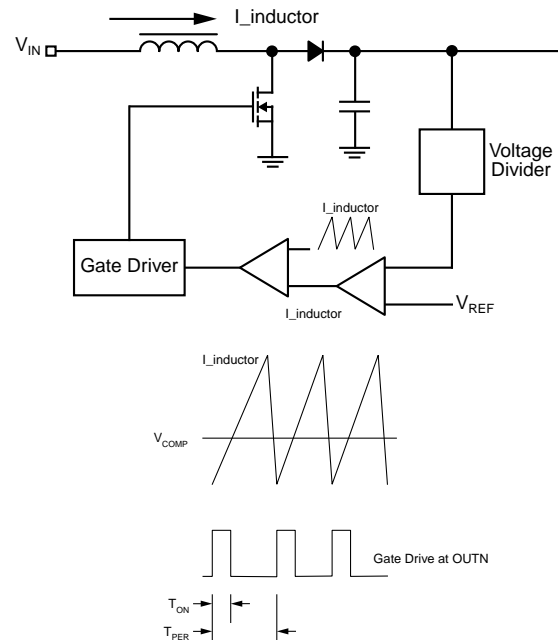

Figure 3: PWM Control Loop
The MIC2196 uses current mode control to improve output regulation and simplify compensation of the control loop. Current mode control senses both the output voltage (outer loop) and the inductor current (inner loop). It uses the inductor current and output voltage to determine the duty cycle (D) of the buck converter. Sampling the inductor current effectively removes the inductor from the control loop, which simplifies compensation. A simplified current mode control diagram is shown in Figure 3.